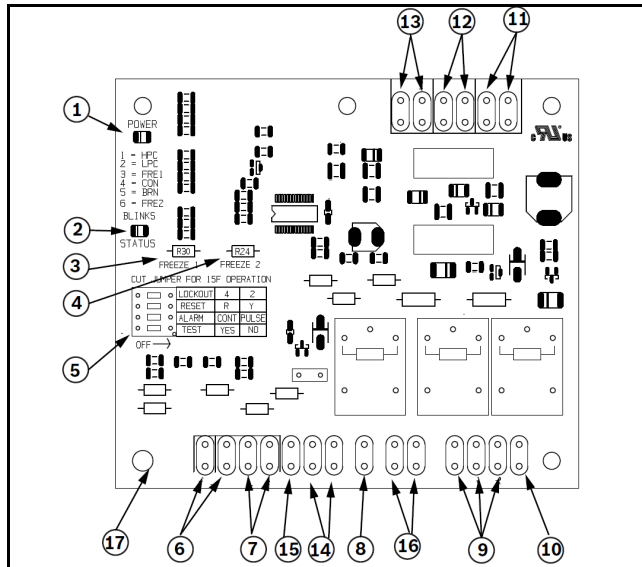
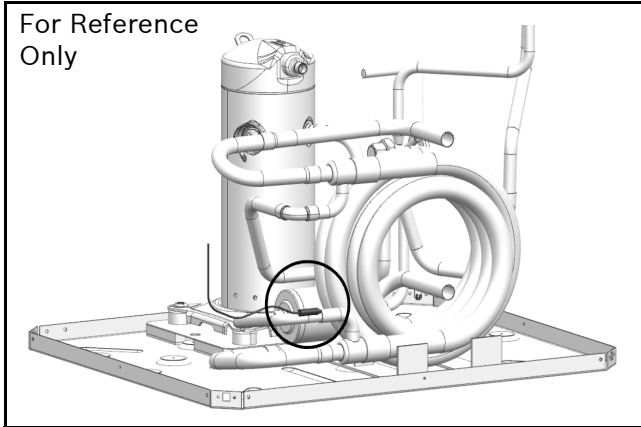

Fig. 6 Typical UPM controller board
Fig. 7 Sensor location
When a malfunction light is used for diagnostic purposes, the connection is made at the dry contact connection terminals of the UPM board. Refer to Fig. 6.
- Water-side freeze protection sensor, mounted close to condensing water coil, monitors refrigerant temperature between condensing water coil and thermal expansion valve. If temperature drops below or remains at freeze limit trip for 30 seconds, the controller will shut down the compressor and enter into a soft-lockout condition. The default freeze limit trip is 26°F; however, this can be changed to 15°F by cutting the R30 or FREEZE 1 resistor located on top of DIP switch SW1 (Refer to Fig. 6, item [3] for resistor location), refer to Fig. 7 for sensor location.
drops below or remains at the freeze-limit trip for 30 seconds, the controller will shut the compressor down and enter into a soft-lockout condition. Both the status LED and the Alarm contact will be active. The LED will flash (3 times) the code associated with this alarm condition. If this alarm occurs 2 times (or 4 if Dip switch is set to 4) within an hour the UPM controller will enter into a hard-lockout condition. It will constantly monitor the refrigerant temperature with the sensor mounted close to the evaporator between the thermal expansion valve and evaporator coil as shown in Fig. 7. If temperature drops below or remains at the freeze limit trip for 30 seconds, the controller will shut the compressor down and enter into a soft-lockout condition. Both the status LED and the Alarm contact will be active. The LED will flash 6 times, the code associated with this alarm condition. If this alarm occurs 2 times (or 4 if Dip switch is set to 4) within an hour the controller will enter into a hard-lockout condition.